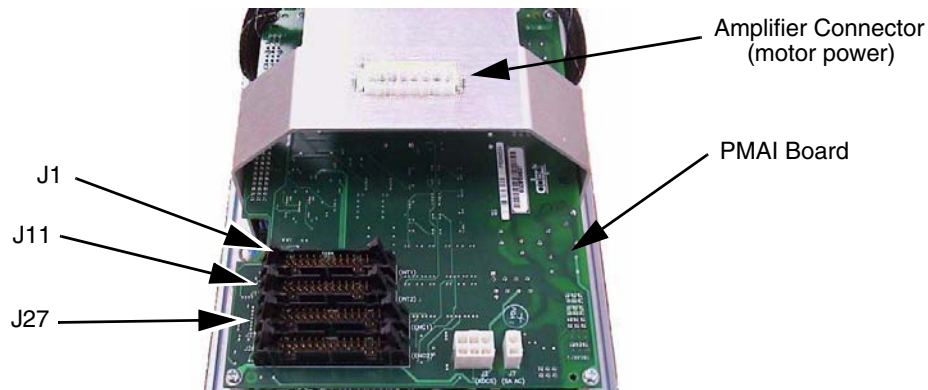

Figure 8-3. Connectors on AIB Chassis
7. Connect the white amplifier cable (motor power) to the amplifier connector located on the chassis bracket. See Figure 8-3.